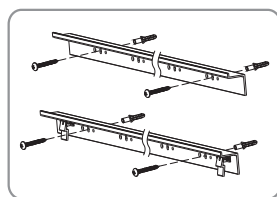

Figure 15
- b) Concrete wall mounting: to use an electric drill to drill 4 holes (2 holes for each bracket), and hammer the provided tapping anchors into each hole, then fix the brackets onto the wall by fastening the tapping screws to the tapping anchors. (Figure 15)